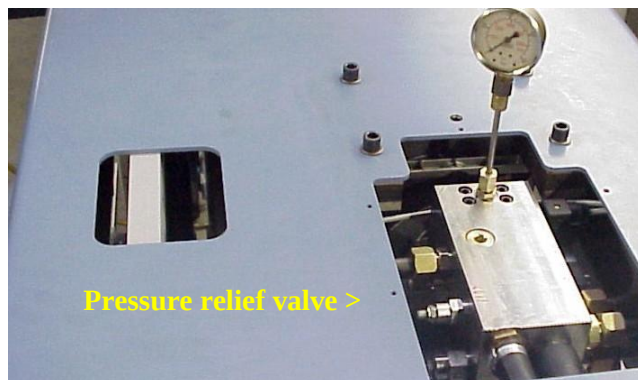

Figure 26: Manometer on hydraulics block
The machine's maximum working pressure (**300 bar**) is set with the pressure relief valve (65) (see fig. 26).